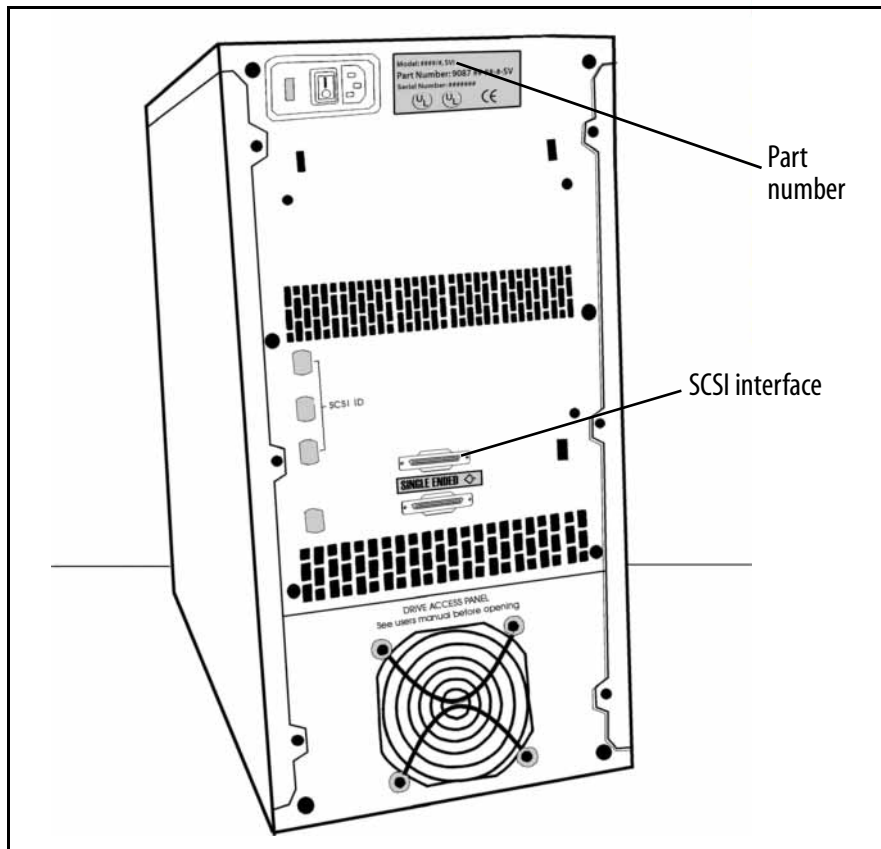

Figure 2-4 The part number sticker indicates the type of SCSI interface.
1. Locate the SCSI interface label between the two SCSI connectors on the back panel of the library (Figure 2-4).
2. The library interface can be identified by its part number sticker, also located on the back panel of the library (Figure 2-4).